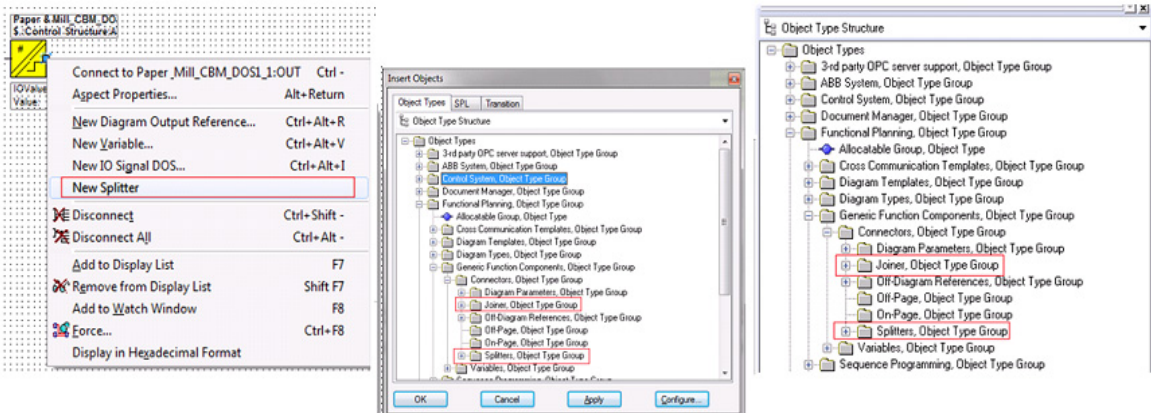

Figure 74. Splitter and Joiner Invocation Methods
1. Select the required port of the control module / function block. Right-click and select **New Splitter** or **New Joiner** options from the available context menu as shown in Figure 74.
2. Select the splitter or joiner function block by navigating to the required object from the **Insert > Object** dialog, as shown in Figure 74.
3. Drag & drop the required splitter or joiner function block from Object Type Structure as shown in Figure 74.